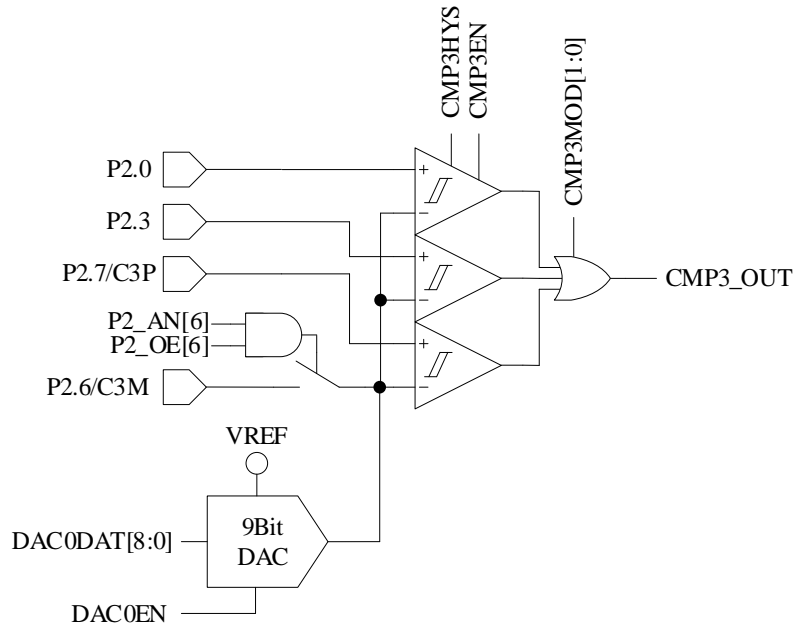

Figure 27-4 Triple-comparator Input Mode
- When CMP_CR1[CMP3MOD] = 1X, CMP3 works in Triple-comparator Input Mode. The connection of input and output pins are as shown in Figure 27-4.